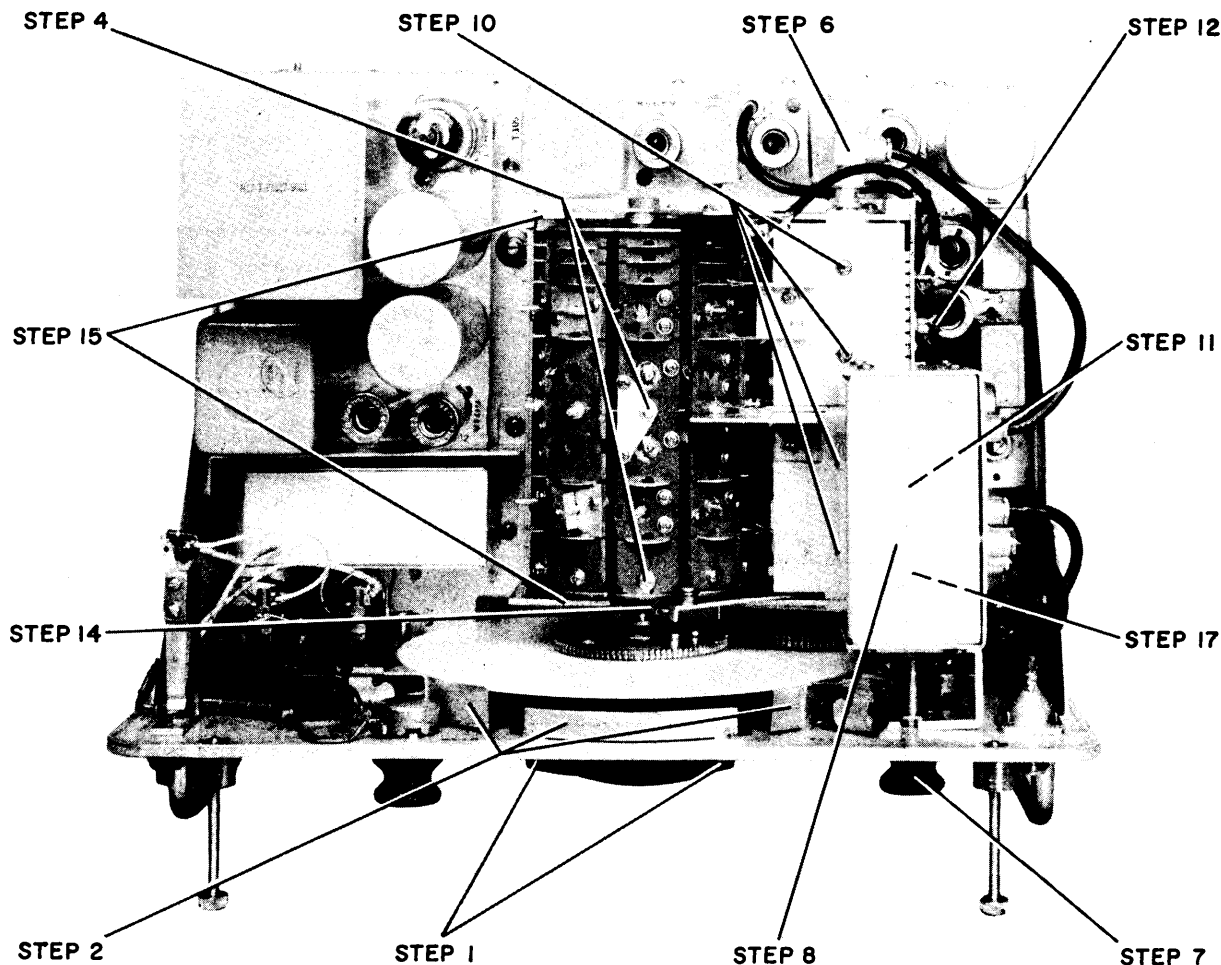

Figure 7-8. Location of Components Involved in the Removal of the R.F. Tuner Assembly
(3) REMOVAL OF THE R.F. TUNER ASSEMBLY.—The R.F. tuner assembly may be removed from the main chassis as a unit by the following procedure: (See Figure 7-8 for locations of the points referred to in the following instructions).